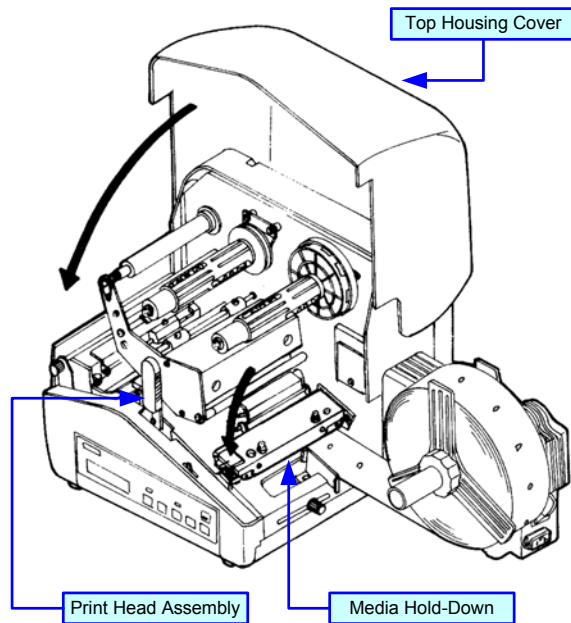

Figure 3-3e, Media Loading
- 8 Lower and latch media hold-down, print head assembly, and top cover (**Figure 3-3e**).